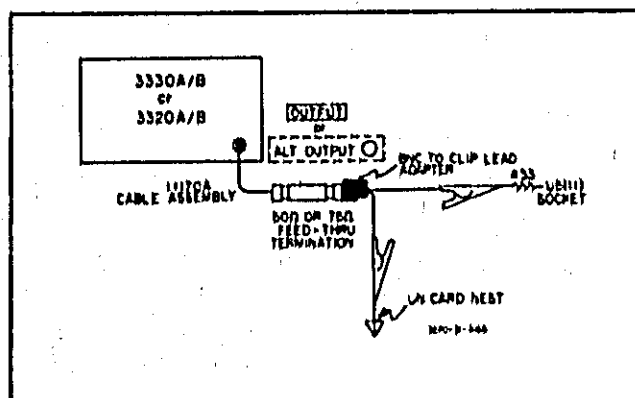

Figure 5-8. L3 Adjustments.
a. Read Note 2 before proceeding. Place the A7/23 assembly on an extender board and set the Synthesizer to 300 kHz and +13 dBm. Connect the Synthesizer as shown in Figure 5-8.